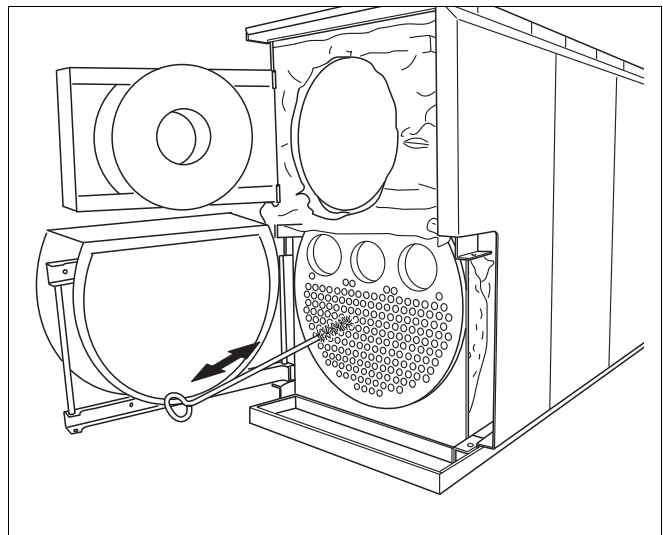

Fig. 38 Cleaning the secondary heating pipes
- Feed brushes through the secondary heating pipes (Fig. 38).
- Clean secondary heating pipes by feeding brushes through (Fig. 38, page 46) or rinsing.